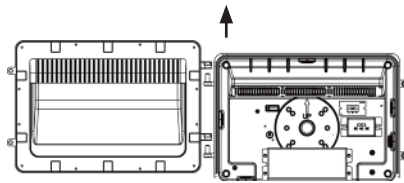

Fig. 2.2
2. Open the fixture, and remove the front cover of the fixture (Fig 2.2). Drill the mounting hole in the four corners of the luminaire.